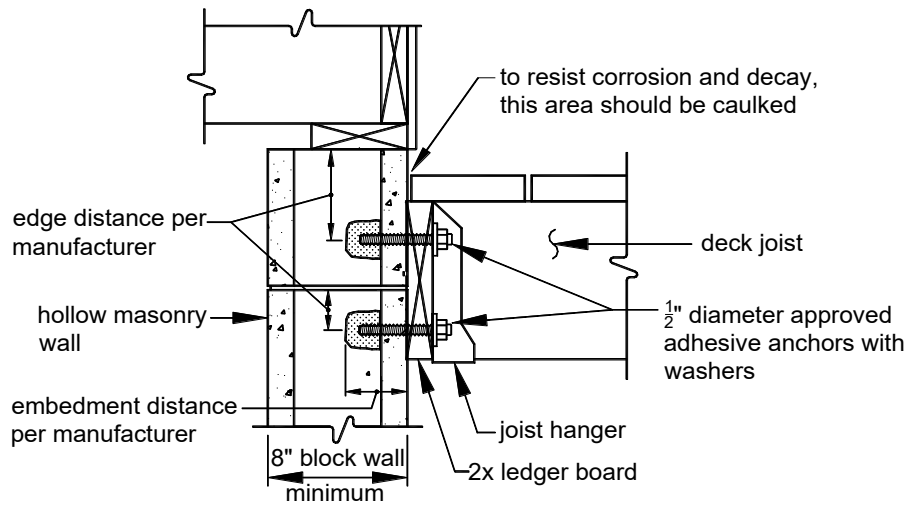

FIGURE 14: LEDGER BOARD-TO-HOLLOW FOUNDATION ATTACHMENT
**Adhesive anchors.** The adhesive anchors listed in TABLE 5 with a minimum ½-inch diameter threaded rod shall be used when attaching to hollow masonry as shown in FIGURE 14. Adhesive anchors are also permitted with concrete or solid masonry installations. Anchors shall be installed per manufacturer's instructions and shall be equipped with washers. Adhesive cartridges must remain on the jobsite for inspector verification.